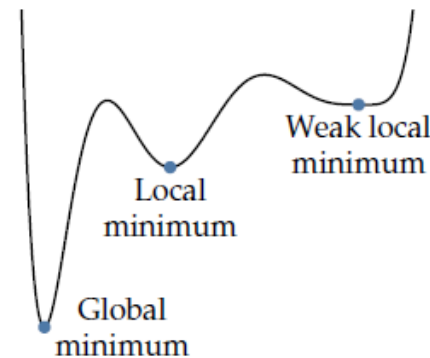

Figure 1.17 Types of minima.
- When we know that a local minimum is the best in the whole domain (because we somehow know that the function is unimodal), then this is also the **global minimum**, as illustrated in Fig. 1.17.